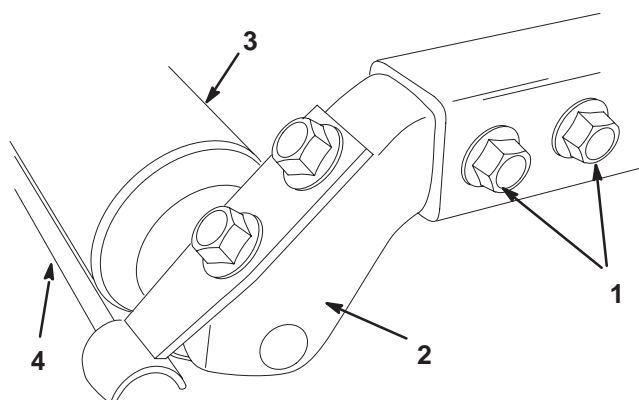

Figure 1
2. Remove and retain mounting screws securing roller mounts to rear of deck frame (Fig. 1). Remove and discard roller, scraper, roller mounts and all remaining mounting components.